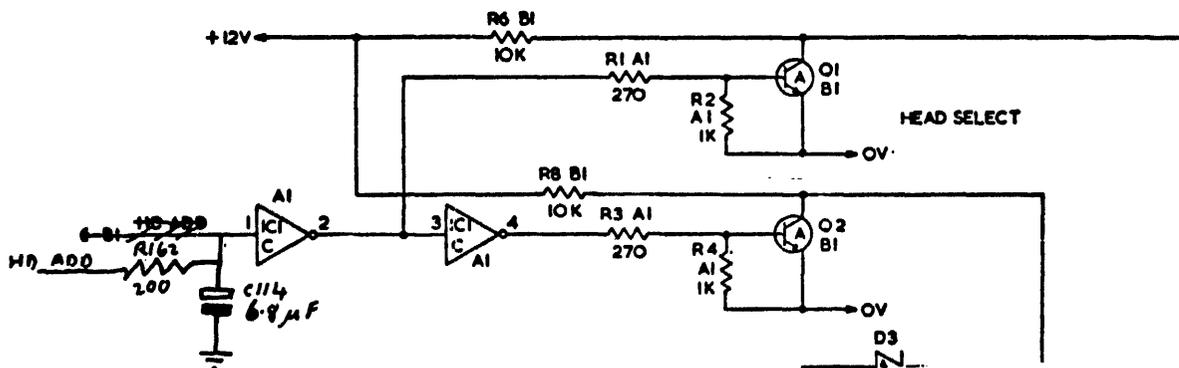

FIGURE 8
17. Update the schematics as shown in figure 8.